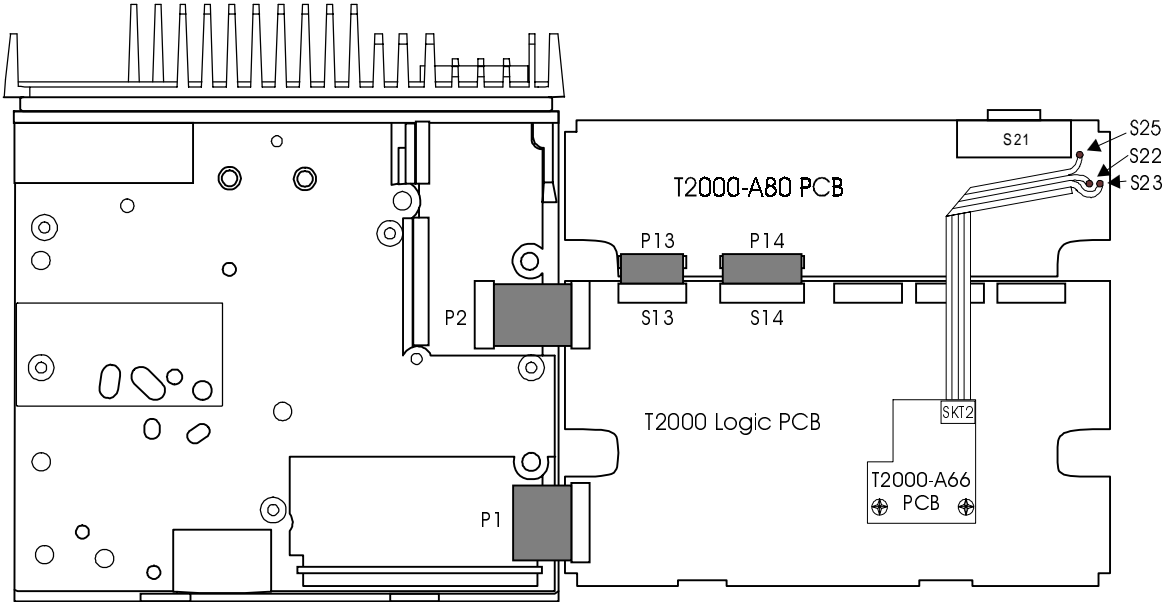

fig.1
4. Solder 3 wires of the connecting loom to the Line Interface PCB according to the following table: (see fig.1 below.)